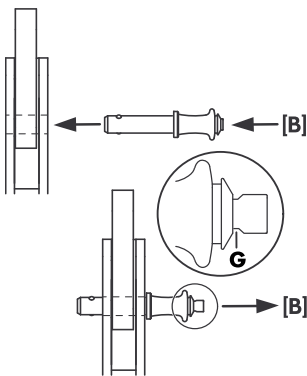

Fig. 10: J-Series Locking pins, Quicklock
2. Releasing the button after the pin is inserted and fixed in place the locking mechanism will be locked. A groove **[G]** (Fig. 10) in the bolt of the pin indicates that it is properly locked.